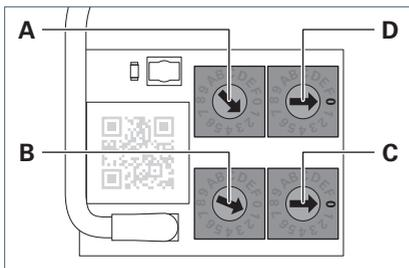

Fig. 8: Deactivating the swarm control, on the TALK module.
- ▶ Set the two rotary encoding switches **A** and **B** to any area address **other than 00**, see Fig. 8.